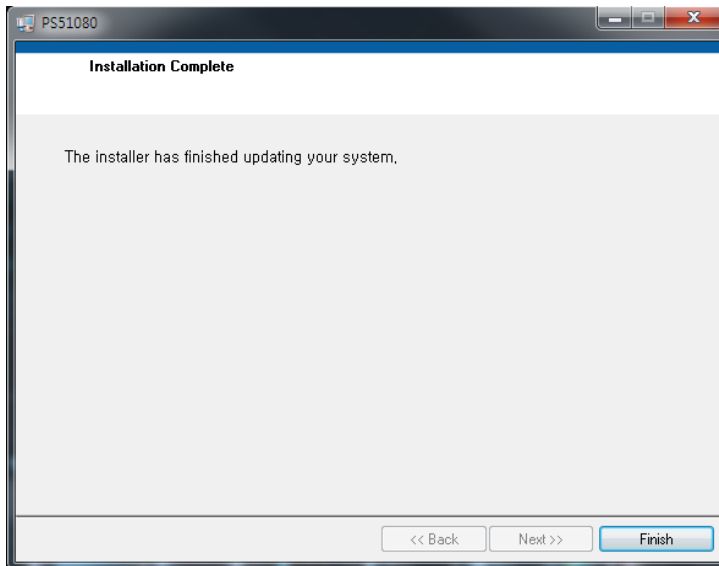

Figure 7-5: Installation Complete
- When the installation is complete, click **Finish**, Figure 7-5.